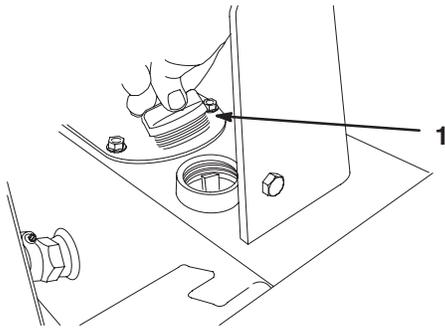

Figure 61
5. Remove the hydraulic tank cap and dipstick (Fig. 61 and 62).